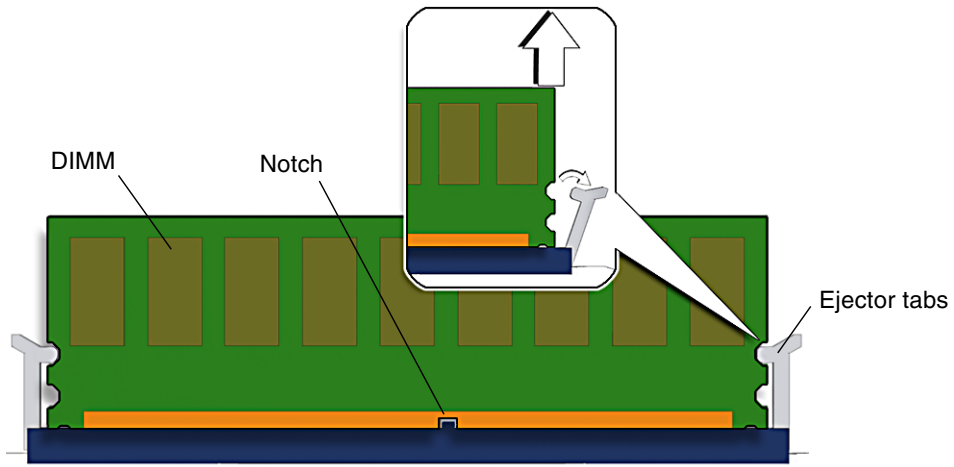

FIGURE 3-16 Removing DIMMs
8. Push down on the ejector tabs on each side of the DIMM until the DIMM is released (FIGURE 3-16).
3. Line up the replacement DIMM with the connector (FIGURE 3-16).
If the DIMM does not easily seat into the connector, verify that the orientation of the DIMM is as shown in FIGURE 3-16. If the orientation is reversed damage to the DIMM might occur.